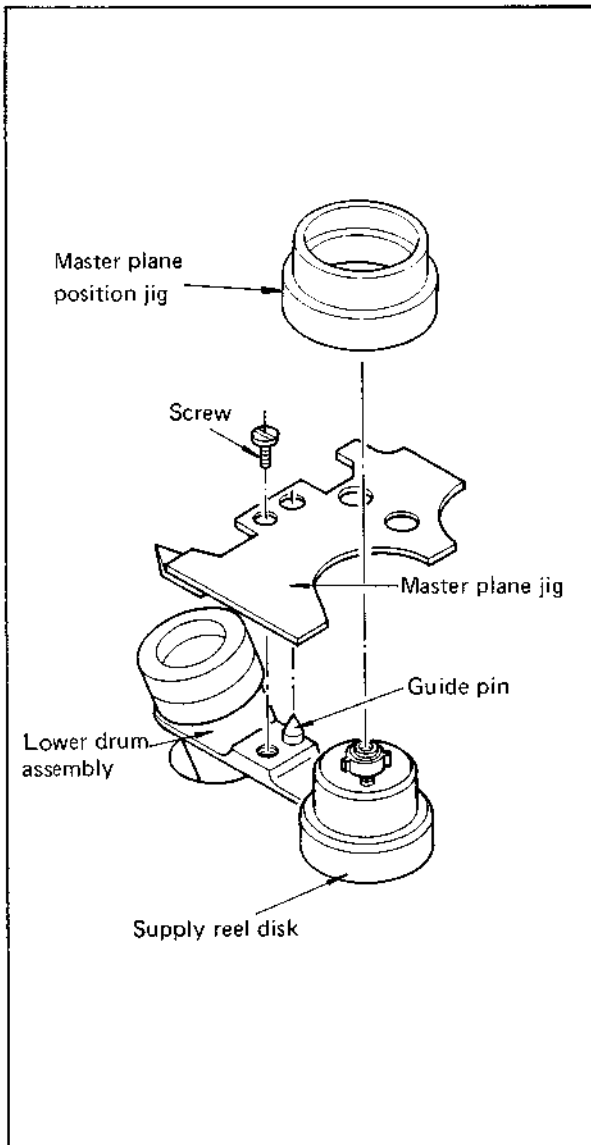

Fig. 4-7
1. Remove the cassette housing. As shown in Fig. 4-7, align the jig with the guide pin of the lower drum assembly and secure lightly with the accessory screw. Use care not to damage the drum or other parts.